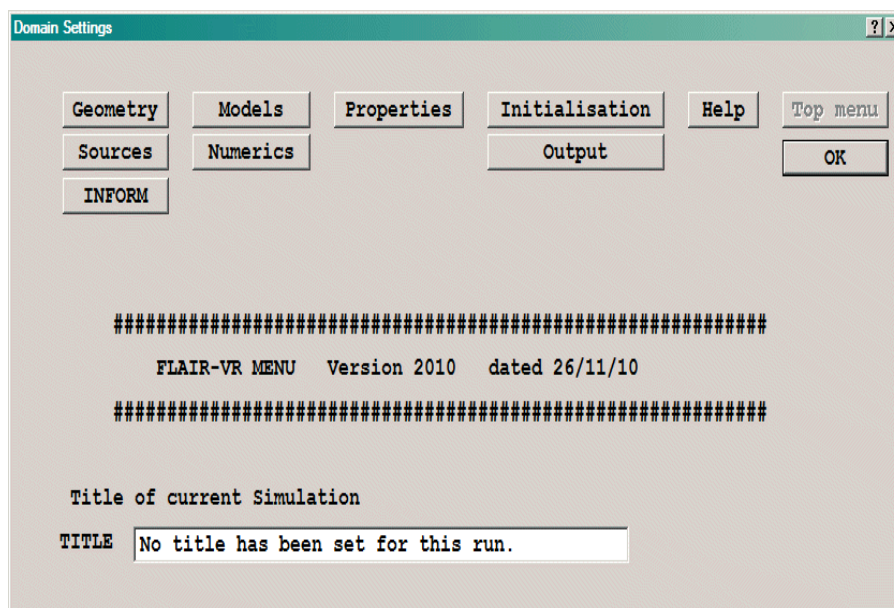

Figure 2.12 The Main Menu top page.
- Click on the 'Main Menu' button, **Menu**. The top page of the main menu, as shown in figure 2.12, will appear on the screen. The menu date may differ from that shown.